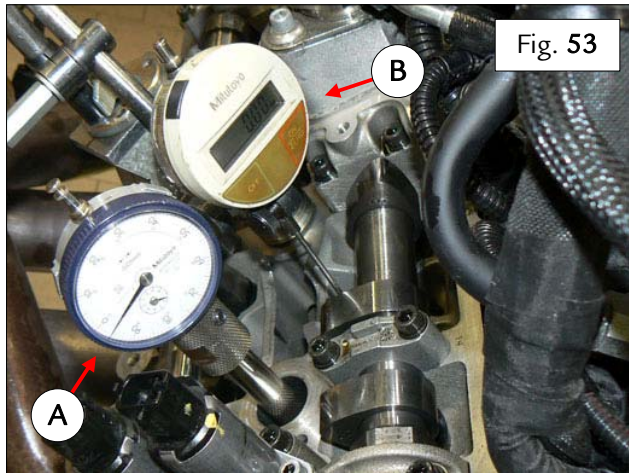

Fig. 53
1A.121 Fit the dial gauge (A) in the tool, insert the assembly in the spark plug hole of cylinder **no. 1** and identify ignition **TDC** – Fig. 53.
1A.122 Maintaining as perpendicular a position as possible relative to the tappet, place the finger of the dial gauge against the upper surface of the bucket tappet of one of the intake valves of cylinder **no. 1**, measure the valve lift and reset the dial gauge (B) at **TDC**. In this condition, the bucket tappets can rotate freely in their seats – Fig. 53.
1A.123 Rotate the crankshaft clockwise by **360°** to approach the valve overlap phase, and check that the dial gauge (B) still indicates zero before the camshaft begins to open the valves – Fig. 53.
1A.124 Rotate the crankshaft until the dial gauge (A) indicates **TDC**. In this condition, the dial gauges (A) and (B) must indicate zero – Fig. 53.
1A.125 Rotate the crankshaft clockwise until dial gauge (A) indicates a value of **4.81 mm** (corresponding to **25°** after **TDC**) – Fig. 53.
1A.126 Dial gauge (B) should now indicate a value of **0.60 mm ± 0.08 mm** – Fig. 53.
1A.127 Adjust the camshaft with a wrench applied to the specific seat to obtain the correct values – Fig. 53.